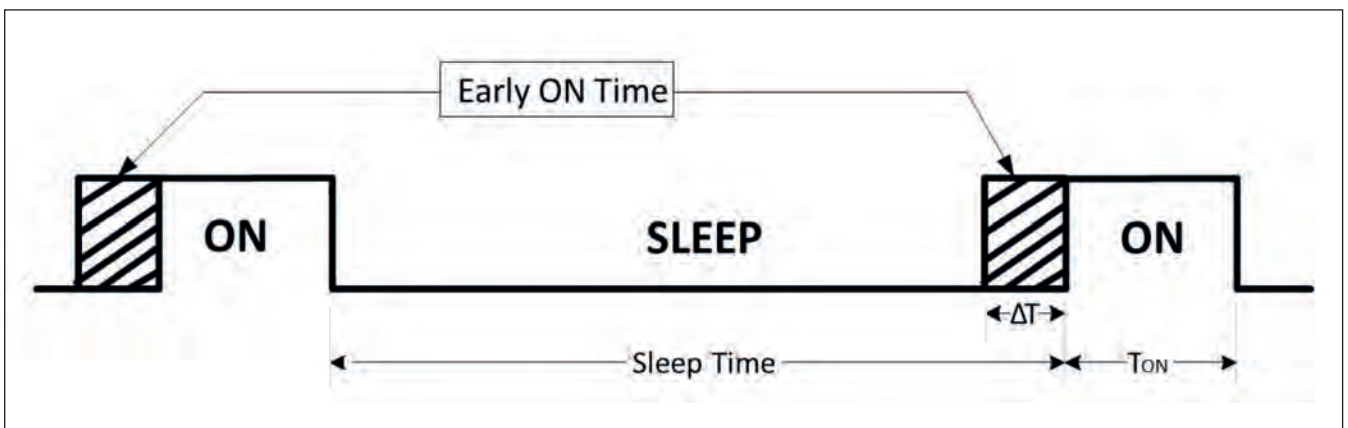

Figure 6: Early ON time (or window widening) is affected by clock accuracy and causes a power penalty.
from the master. Clock inaccuracy, measured in ppm, extends early ON time (T), as shown in Figure. 6: $T = (SCA) \times (SLEEP\ TIME)$.